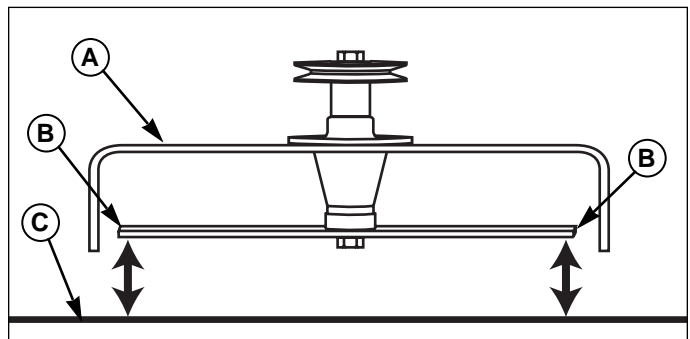

Figure 34. Measure Blade Tips to Ground
4. See Figure 34. Measure the distance between the outside tips of the outer blades and the ground. If there is more than 1/8" (3mm) difference between the measurements on each side, proceed to step 5. If the difference is 1/8" (3mm) or less, proceed to step 6.
2. See Figure 34. Measure the distance from the ground to the front and rear tips of the blades as shown. Front tips should be equal to rear tips or within 1/8" higher. If not, proceed to step 3.